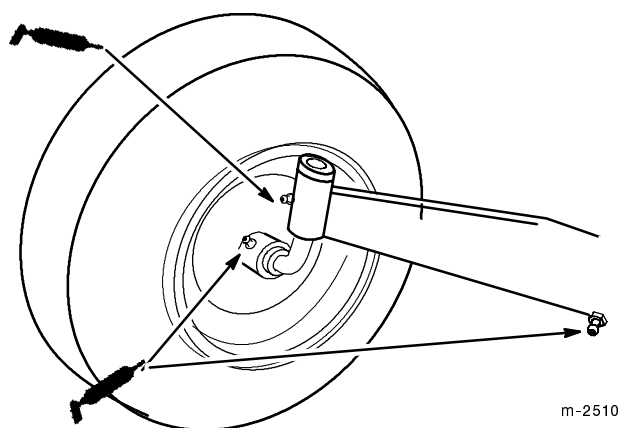

Figure 26
1. Lubricate the front wheels, spindles and tie-rod ends until grease begins to ooze out of the bearings (Fig. 26).
2. Lubricate the front axle pivot (Fig. 26).